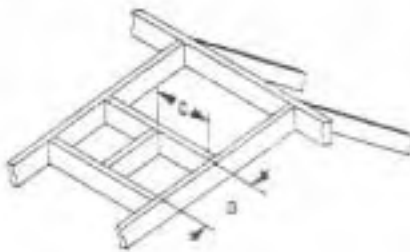

Figure 20
D. To add vent sections, start with the 5" (127 mm) inner section and slide it over the previously installed inner section; an overlap of 1 1/4" (32 mm) is required. The section will not bottom out on the bead. Remember to seal inner sections using \_Mill-Pac Black (700°F) high temperature sealant on the mating surfaces before fitting together. Secure with two (2) No. 8 x 1/2" sheet metal screws. Slide the 8" (203 mm) outer section over the previously installed outer section; a 1 1/4" (32 mm) overlap is required. This section will not bottom out on the bead. Make sure the crimped end of both inner and outer vent sections are the same height and that the centering spacer is properly seated. Secure with two (2) No. 8 x 1/2" sheet metal screws.
E. At transition from or to a horizontal/inclined run, the \_DST5-90EL.B/, \_DST5-45EL.B/, \_DVSP5-90EL5 elbows install in the same manner as the straight vent sections. Apply \_Mill-Pac Black (700°F) high temperature sealant to the inner joints. Slip the inner elbow over the straight inner vent section. Secure with two (2) screws. Slide the outer elbow over the inner elbow, slip down over the outer vent section. Secure with two (2) screws.
H. Identify location for vent at the roof. Cut and/or frame opening per Roof Framing Chart and Figure 20.